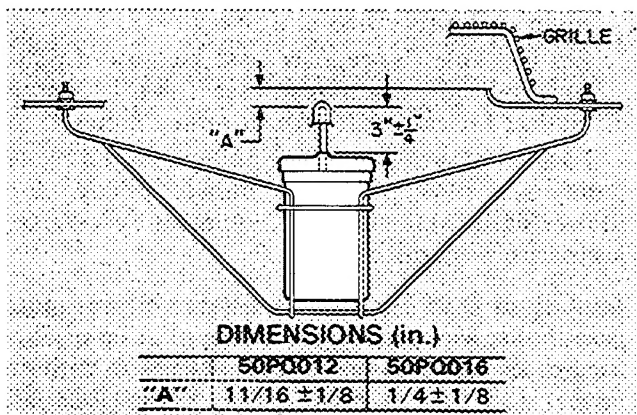

**Fig. 14 — Indoor Blower Pulley Alignment and Adjustment**
3. Loosen movable pulley flange setscrew (see Fig. 14).